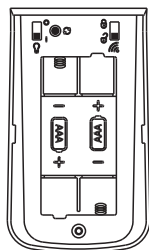

Figure 15
- Remove the battery cover from the remote control (H). Install 2 AAA batteries (not included). Replace the battery cover. (Figure 15)